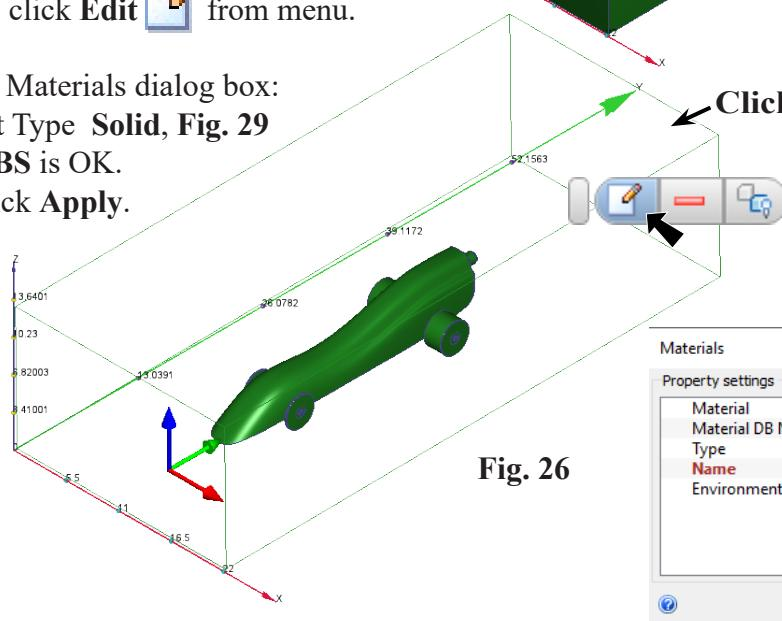

Fig. 26
Step 2. Click the **Tunnel** outline and click **Edit**  in the pop-up, Fig. 26.